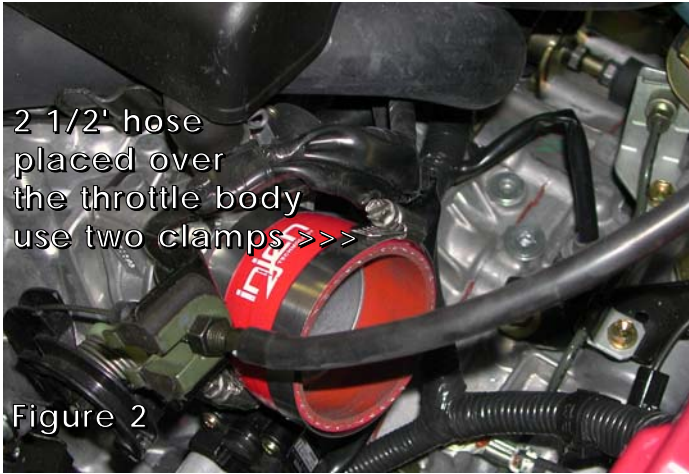

Figure 2
- 2- Place the 2 1/2" straight hose onto the throttle body, use 2 clamps as seen in figure 2 and tighten the clamp on the throttle body.